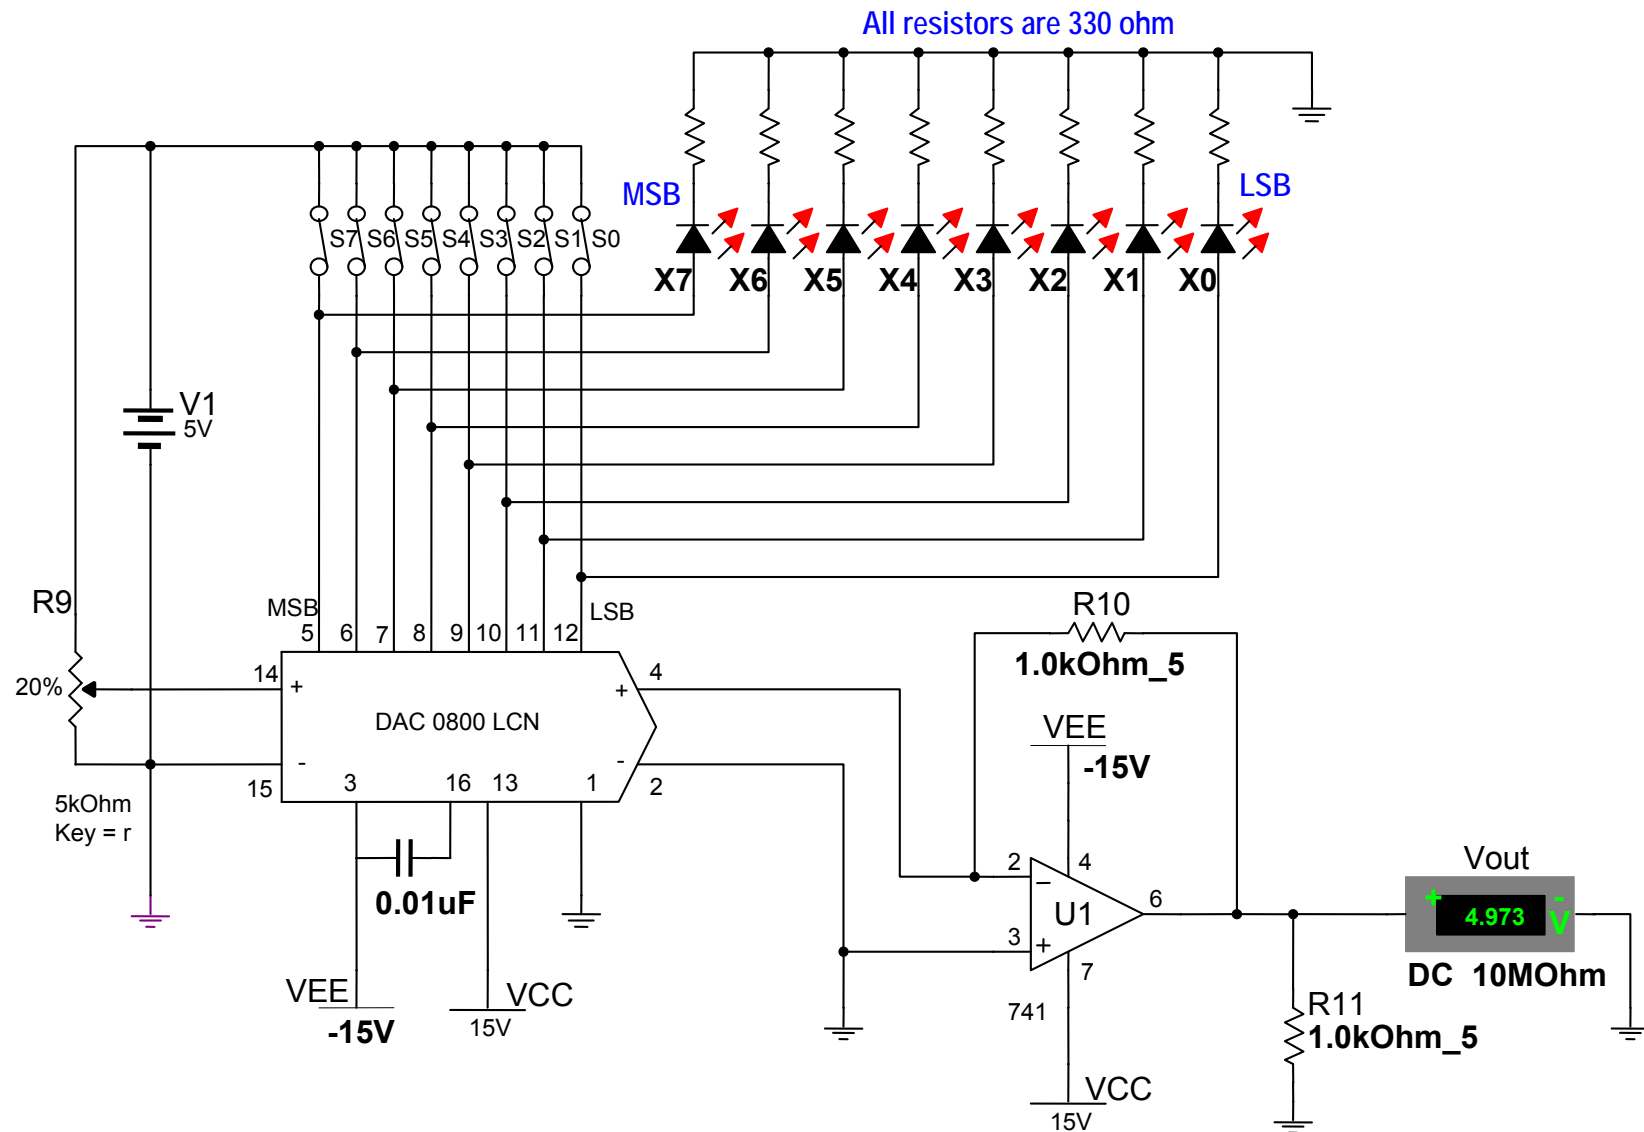

Figure 3-3. Schematic diagram of an IDAC using the DAC0800LCN DIP IC.
Now, you have tested the circuit to satisfy the problem statement using Multisim, it is time to hardwire the circuit shown in Figure 3-2 with real components. We will use the DAC0800 LCN DIP IC and whose schematic diagram is depicted in Figure 3-3.
1. Build the circuit indicated in figure 3-3 using a breadboard and actual components.